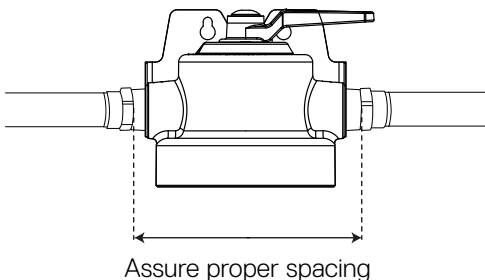

Figure 2
4. Calculate proper spacing of components (approximately 3/4" of existing pipe inserts into each fitting) (see Figure 2.)